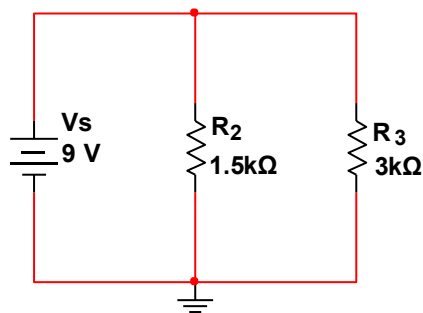

Figure P.2 – DC Parallel Circuit
Figure P.2 shows a DC circuit that has two resistors R_2 and R_3 connected in parallel with a DC Voltage Source.
1. **Analyze** the circuit in **Figure P.2**.